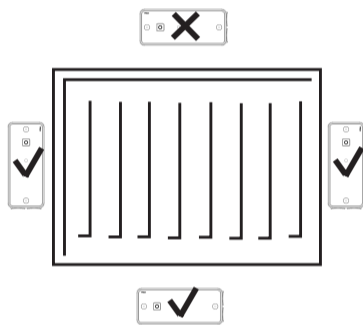

Fig. 2 - Mounting surface preparation
2. Prepare mounting surface as per the diagram. NOTE: Breakout tabs can be removed to provide 4x extra mounting holes and 2x larger holes for rear cover cable entry. – Fig. 2